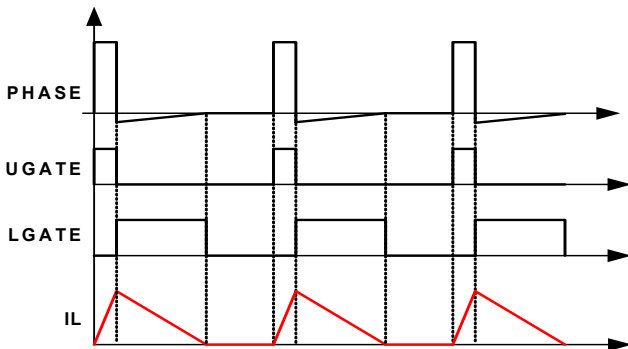

FIGURE 10. DIODE EMULATION
The ISL6277A can operate in diode emulation (DE) mode to improve light-load efficiency. In DE mode, the low-side MOSFET conducts when the current is flowing from source to drain and does not allow reverse current, thus emulating a diode. As Figure 10 shows, when LGATE is on, the low-side MOSFET carries current, creating negative voltage on the phase node due to the voltage drop across the on-resistance. The ISL6277A monitors the current by monitoring the phase node voltage. It turns off LGATE when the phase node voltage reaches zero to prevent the inductor current from reversing the direction and creating unnecessary power loss.
If the load current is light enough, as Figure 10 shows, the inductor current reaches and stays at zero before the next phase node pulse, and the regulator is in discontinuous conduction mode (DCM). If the load current is heavy enough, the inductor